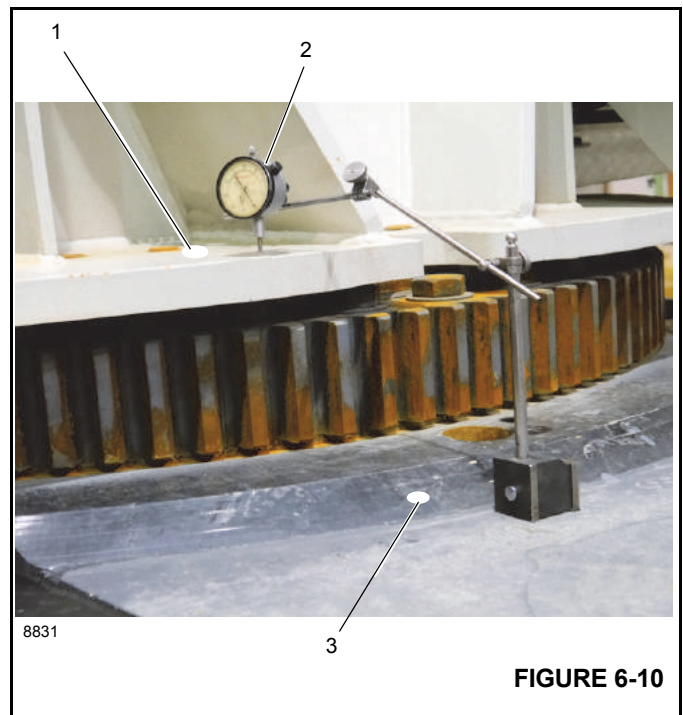

FIGURE 6-10
2. Put a dial indicator (2, Figure 6-10) opposite the boom on the T-box frame (3).
3. Place the dial on the top of the turret bearing plate (1, Figure 6-10).